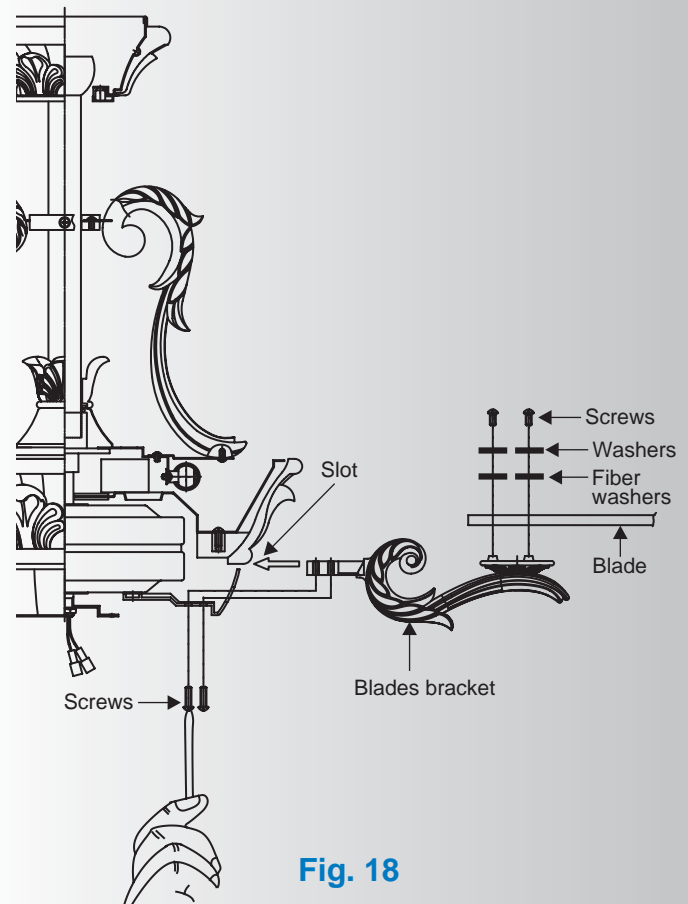

Fig. 18
Step 1 Attach the blade to the blade bracket using the screws, washers and fiber washers as shown in Figure 18. Start screw into bracket. Repeat for the two remaining screws.